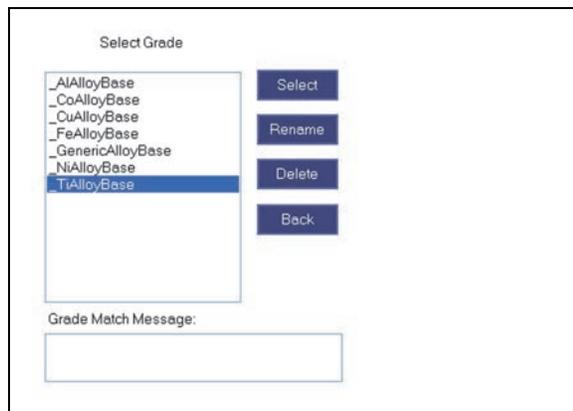

Figure 2-13 The Select Grade pane
1. In the **Select Grade** pane, select a grade, and then click **Delete** (see Figure 2-13 on page 57).